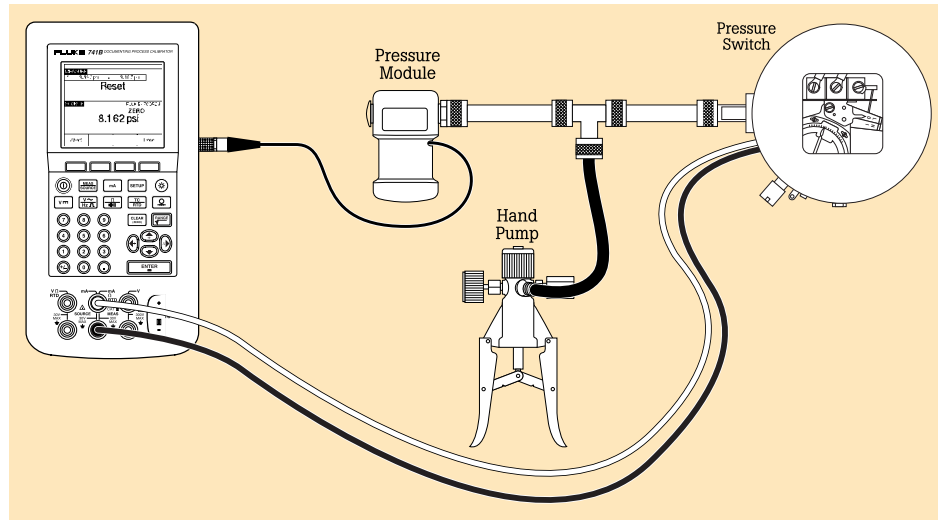
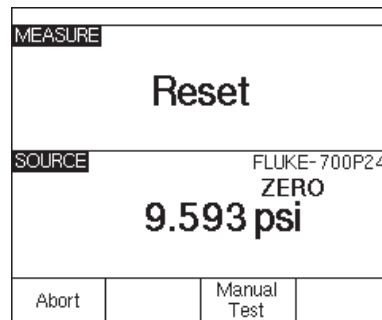

Figure 1.
Figure 4.
- Connect a pump to the pneumatic input of the switch with a tee connection into the pressure module, like the Fluke-700 Series pictured in Figure 1.
When all connections are complete it should resemble Figure 1.
The test can now be performed by selecting the MANUAL TEST softkey (Figure 4). Using the hand pump connected (Figure 1),